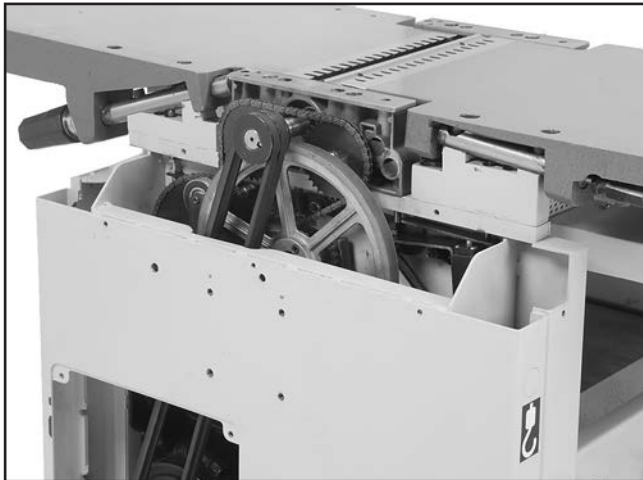

Figure 64. Fence, V-belt cover, and motor access panel removed.
2. Remove the fence, fence bracket assembly (G0634Z only), cutterhead pulley cover, and motor access panel (see **Figure 64**).